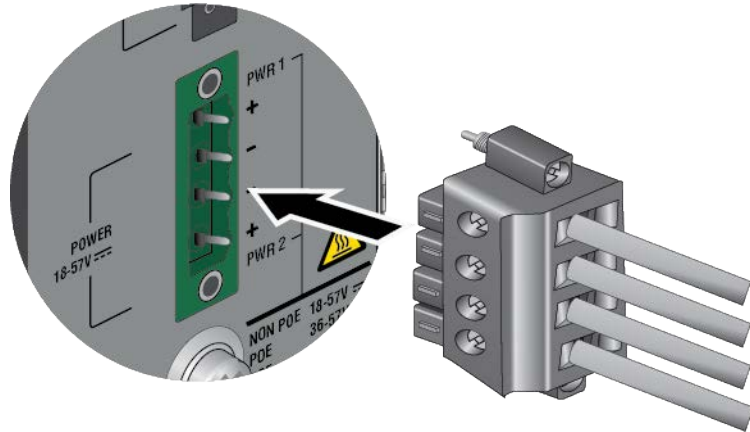

Figure 69. Inserting the POWER Plug into the POWER Connector
2. Insert the POWER plug into the POWER connector on the front panel. Refer to Figure 69 on page 117.